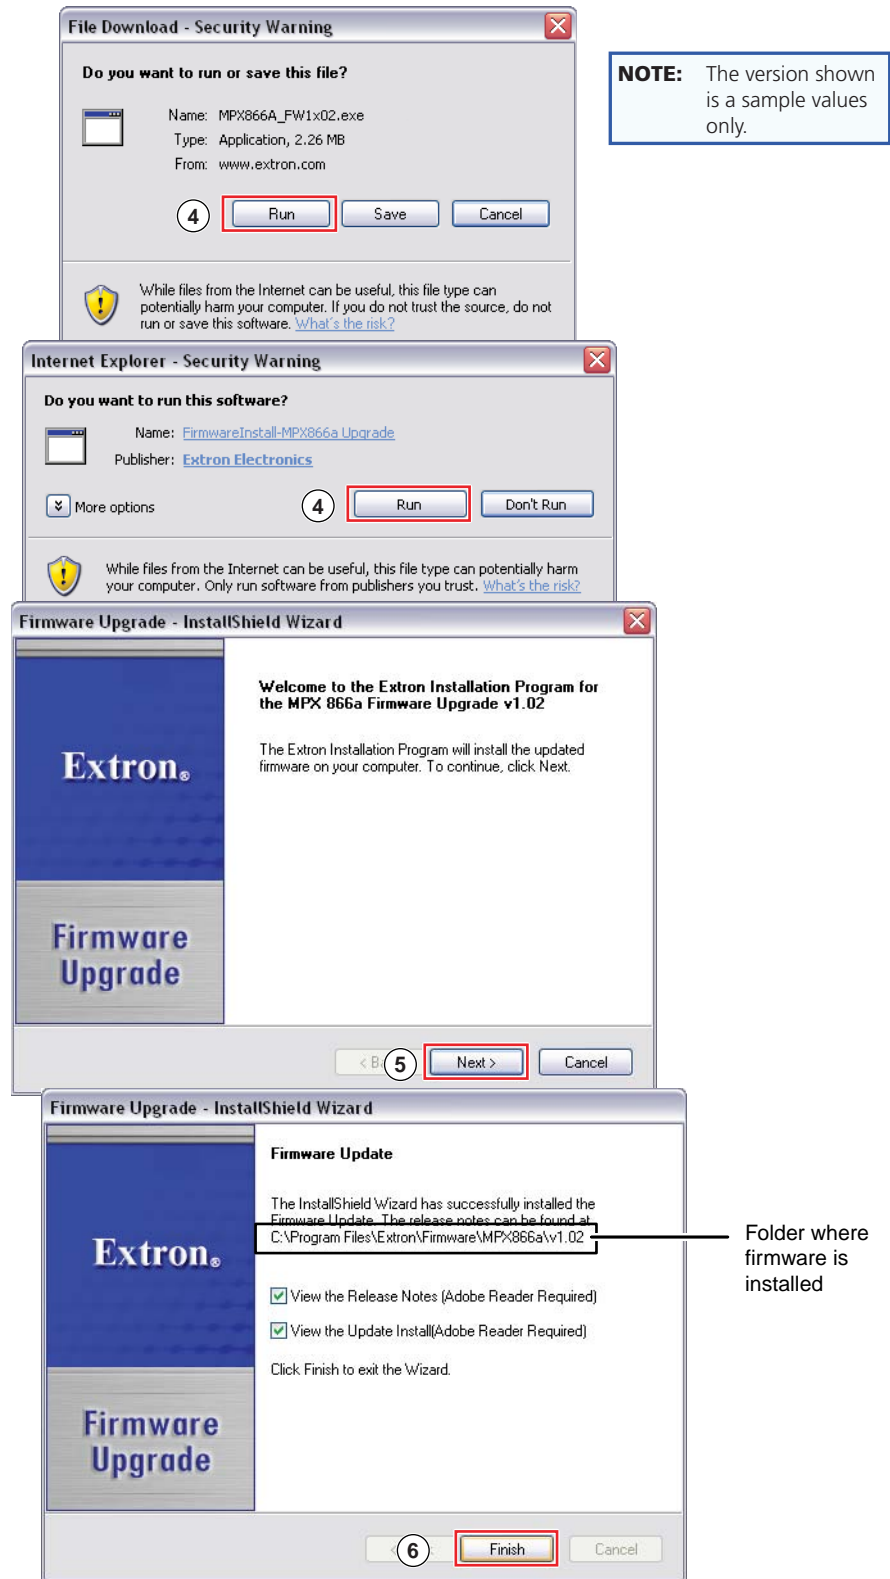

Figure 38. Downloading Firmware Upgrade Files
4. Click **Run** on the next two screens (see figure 38 on the next page). The PC downloads the firmware update from the Extron website and starts the Extron Installation Program to extract the firmware file.